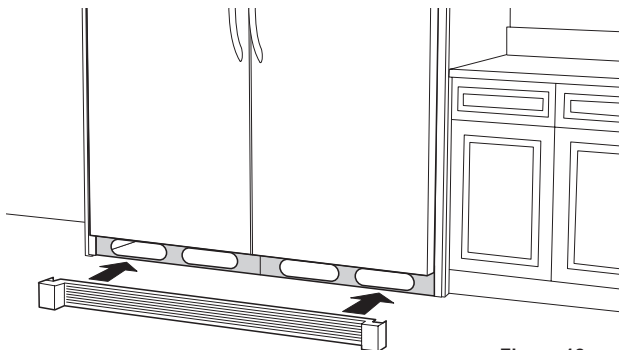

Figure 12
9. Attach metal toe grille (F) using the four screws saved during removal of the plastic grille panels in Step 4. It may help to open doors of both units to aid alignment of screws. Run screws through the left-most and right-most grille holes and tighten until slightly snug. Next, install two inner screws but do not fully tighten. Adjust so the top of toe grille is parallel with the bottom of both doors and then tighten all four screws. See Figure 12.